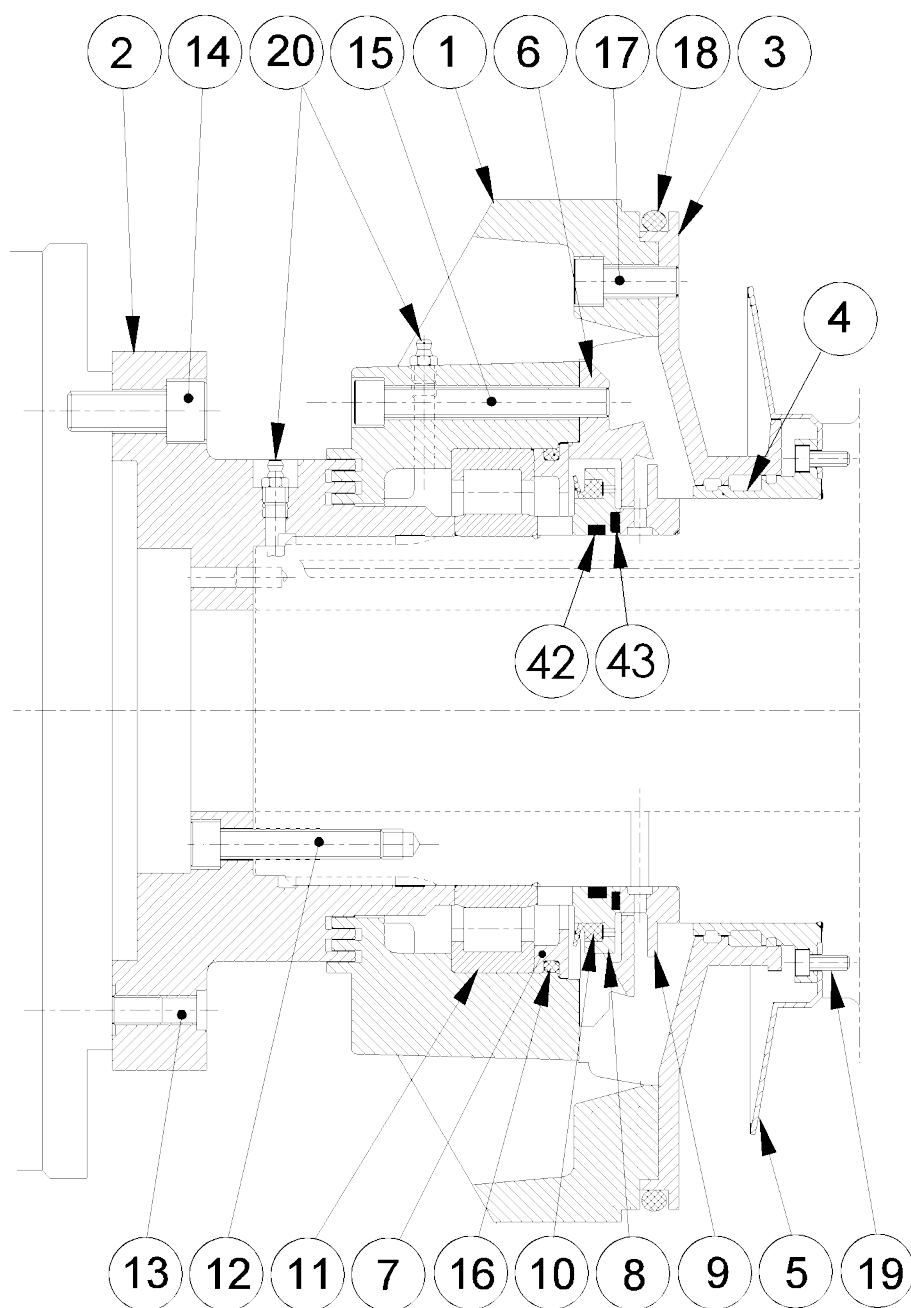

Figure 4.2.1
4.2 Main Bearings (Fig. 4.2.1)
4.2.2 Assemble Main Bearing Large End (Fig. 4.2.1)